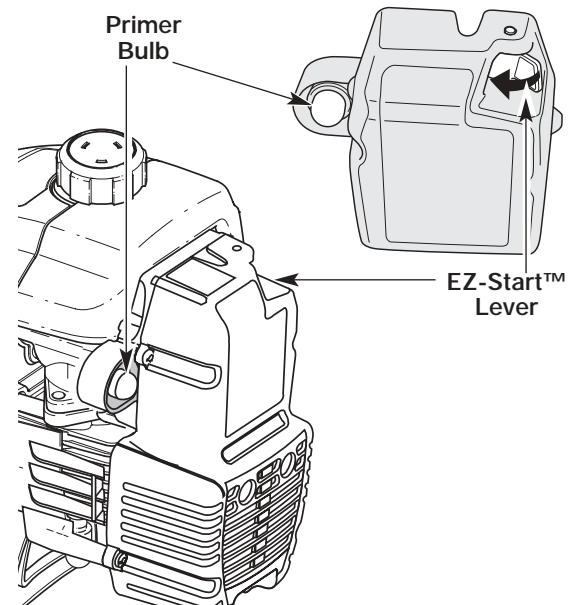

Fig. 7
3. Fully press and release the primer bulb 10 times, slowly. Some amount of **fuel should be visible in the primer bulb** and fuel lines (Fig. 7). If you can't see fuel in the bulb, press and release the bulb as many times as it takes before you can see fuel in it.
4. **Push the EZ-Start™ Lever to the left** until it clicks and locks into place (Fig. 7).